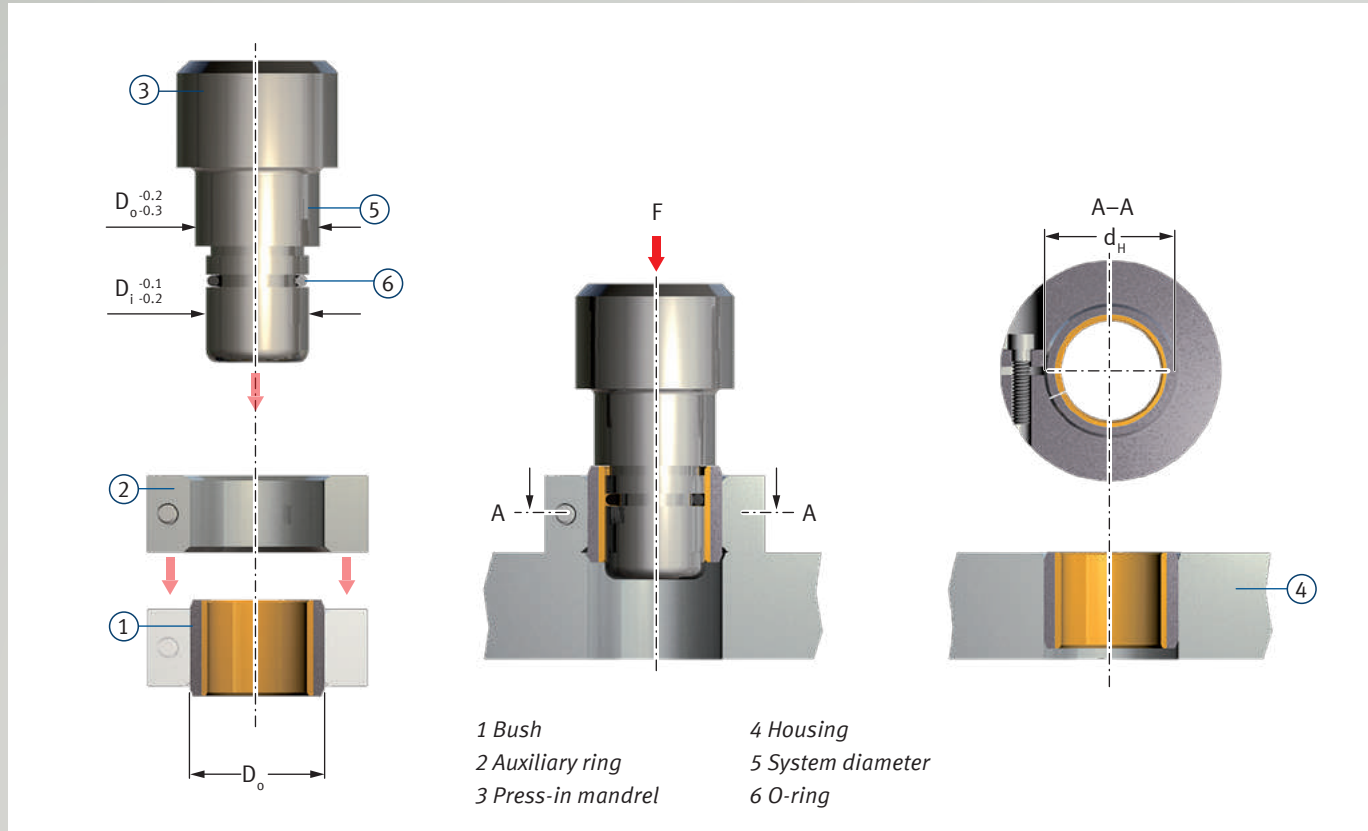

Fig. 53: Press-fitting bushes,  $D_o \geq 55$  mm, with auxiliary ring
- Press-fitting with mandrel and auxiliary ring, as per Fig. 53.
Fig. 53 shows calibration using a mandrel. Tab. 36 contains standard values for the diameter of the calibrating mandrel  $d_k$ . Precise values can only be ascertained through tests.